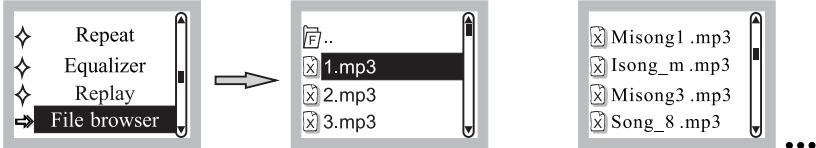

Fig. 14
- (I) File Browser Mode: Press PLAY/PAUSE  to enter track directory. Press PRV/TEN  or NEXT/ TEN  to select the desired song. Press PLAY/PAUSE to play the song tracks, Fig. 14.